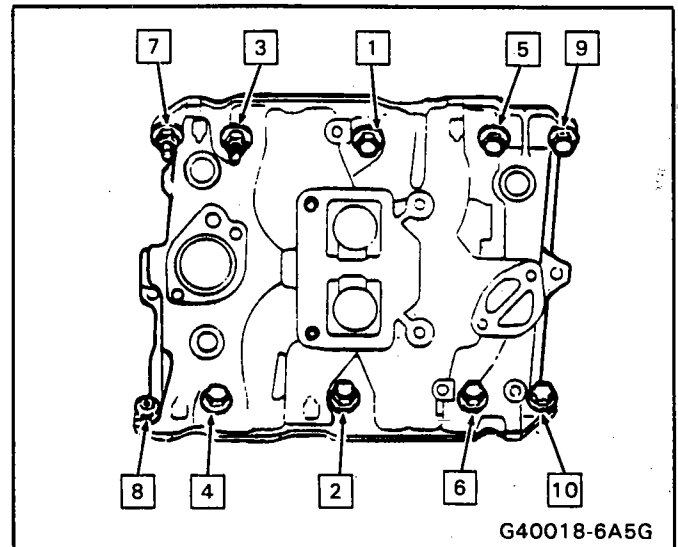

Figure 4 Intake Manifold Bolt Tightening Sequence
See Figure 4
- Continue in sequence shown on Figure 4.